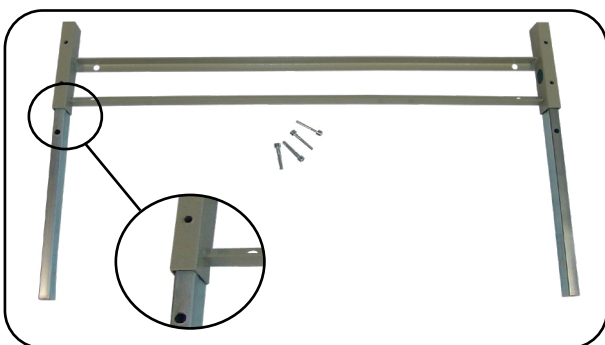

Fig. 6.6.03 – Extension tubes positioned in bed extension
2. Position the two extension tubes in the bed extension (Fig. 6.6.03).